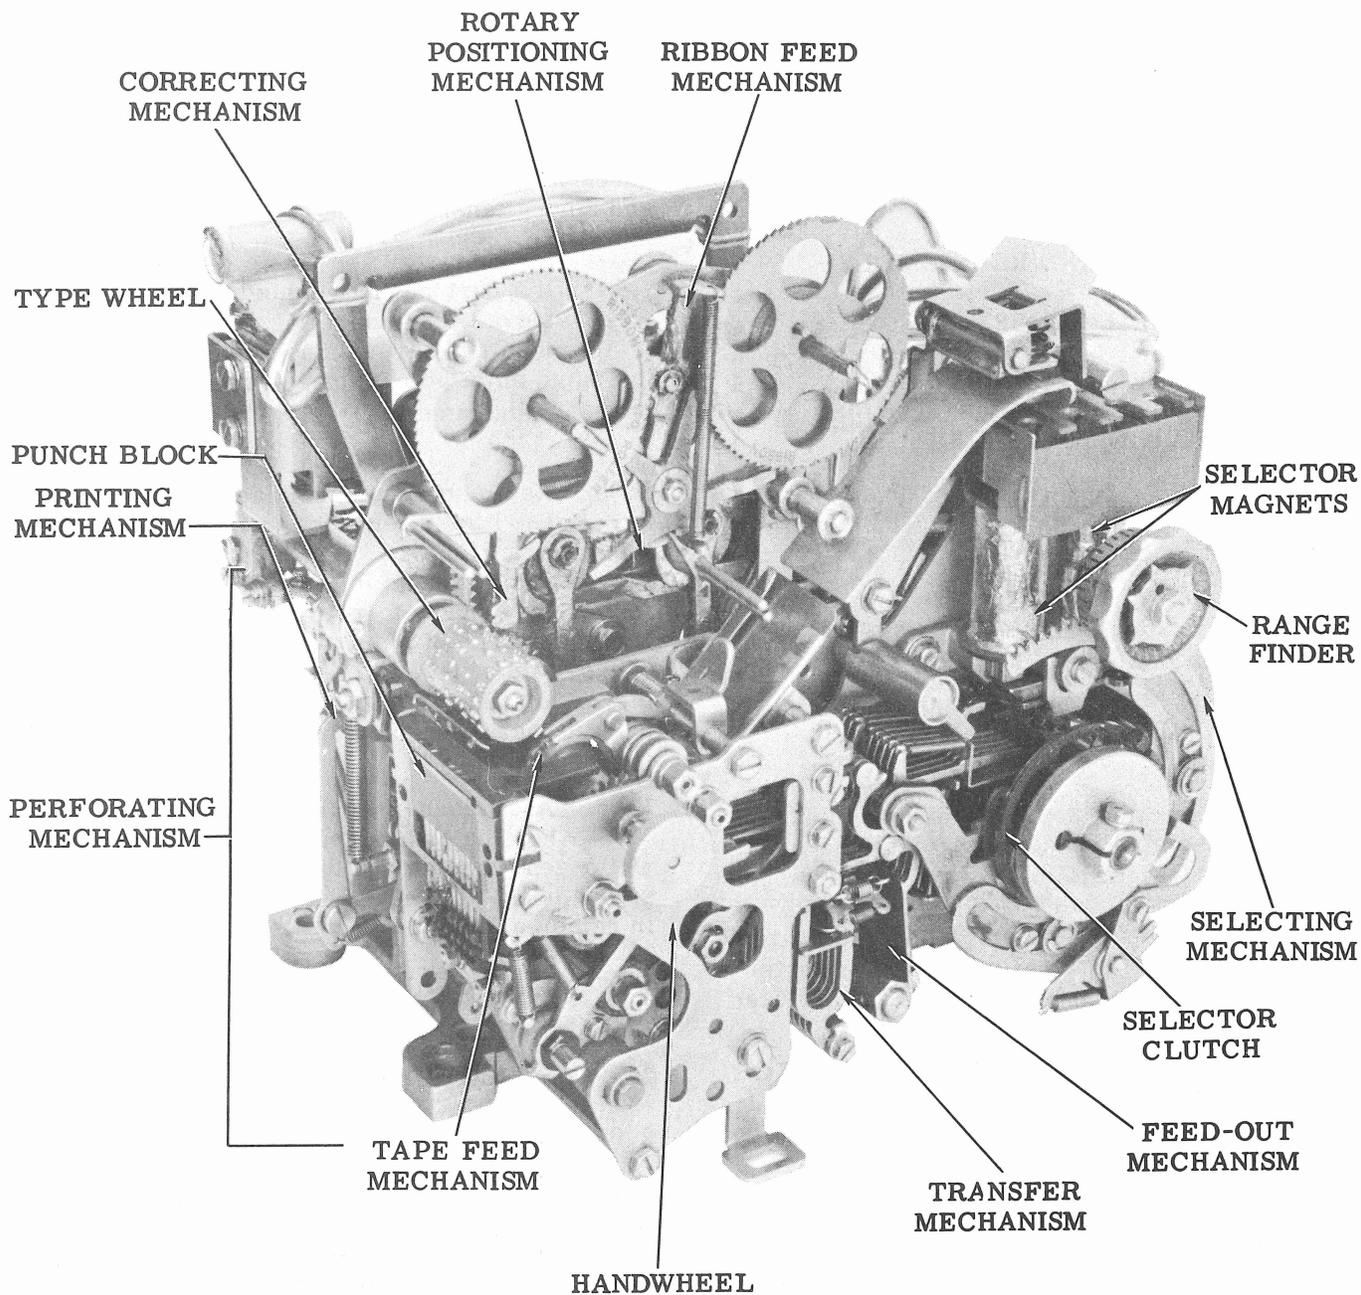

Figure 1 - 35 Typing Reperforator (Left Front View)
1.01 This section provides disassembly and reassembly procedures for the 35 typing reperforator (Figures 1 and 2). It is reissued to include recent engineering changes, additions, and the needle bearing lubrication information contained in TCN-1072. Since this is an extensive revision, marginal arrows ordinarily used to indicate changes have been omitted.